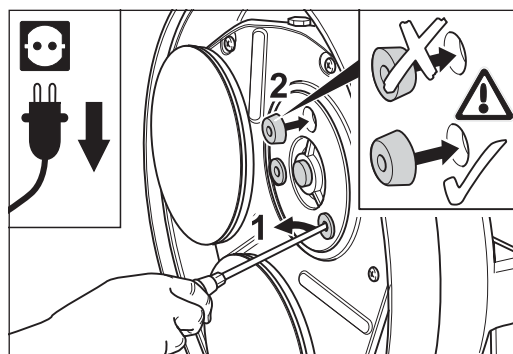

Fig. 107 Replacing the rubber plugs. **Make sure of the correct insertion position!**
- 3 Use a screwdriver to prize the rubber plugs out of the sanding plate pulleys (fig. 107, 1).
- 4 Insert the new rubber plugs. **Make sure you have the correct insertion position! The larger diameter of the rubber plugs must be inserted in the hole first (fig. 107, 2)!**